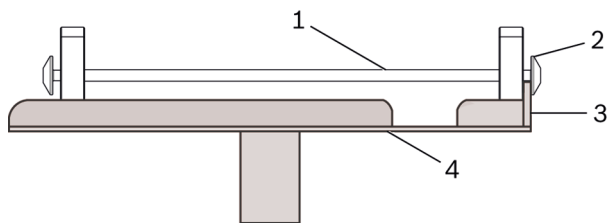

Figure 2: Support on the universal plate
3. Place the support on the universal plate of the engine and gearbox jack. Ensure thereby that the safety bushing grips engage behind the front edge of the universal plate as shown (see figure 2).
- Place and secure the support exactly as shown in point 3 and figure 2.